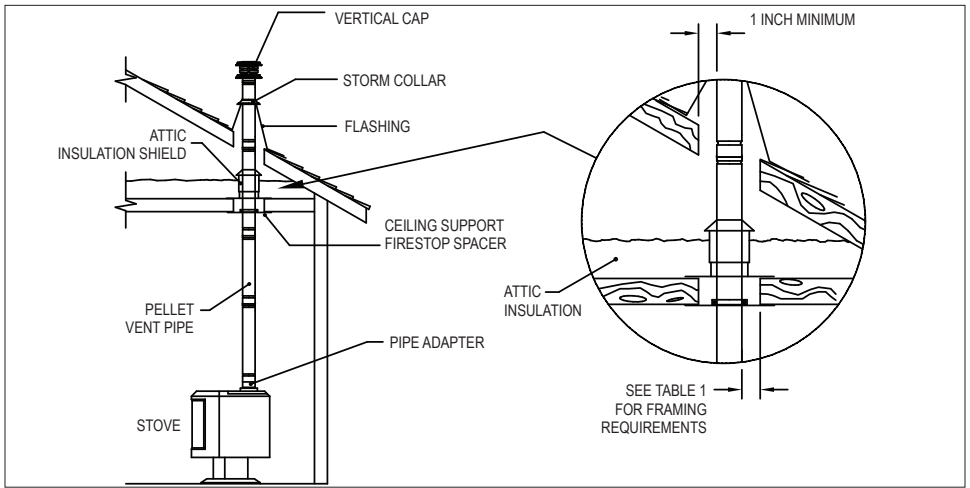

Figure 1
2. If the vent exit is on top of the stove (**Figure 1**):
F. When the PelletVent enters the Attic, install an Attic Insulation Shield around the vent (**Figures 1 & 3**). This will prevent insulation and debris from collecting near the vent pipe. Use (4) wood screws to secure the base of the Attic Insulation Shield to the framed opening. Adjust the height of the Attic Insulation Shield by sliding the top cylindrical shield over the one from the base. Insure that the top of the Shield is above the level of building insulation. Secure the Shield in place with at least two (2) sheet metal screws through the side of the cylindrical shield. Attach collar around the top of the Attic Insulation Shield.